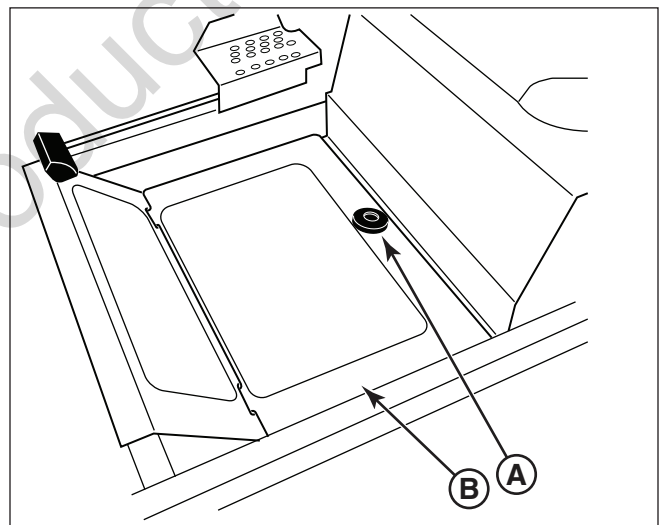

Figure 46. Floor Pan Removal & Installation
1. Loosen and remove the knob (A, Figure 46) that secures the floor pan (B) to the frame.